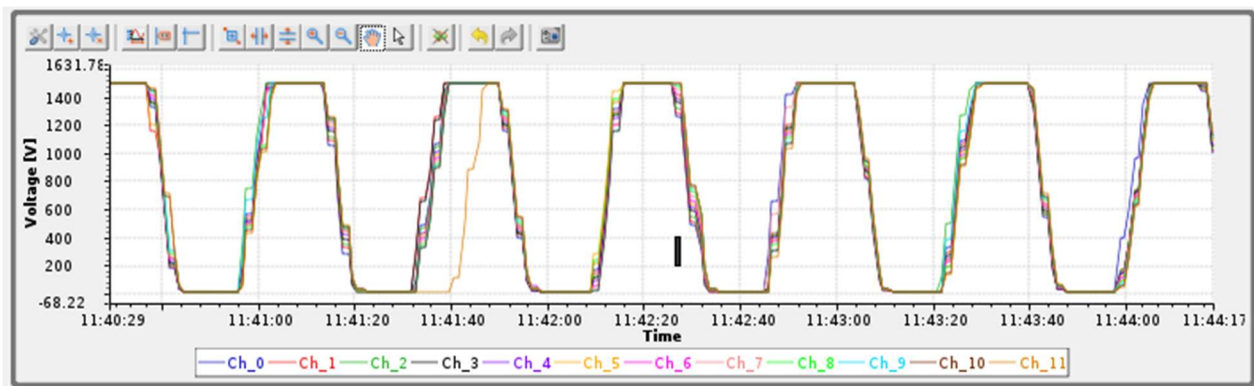
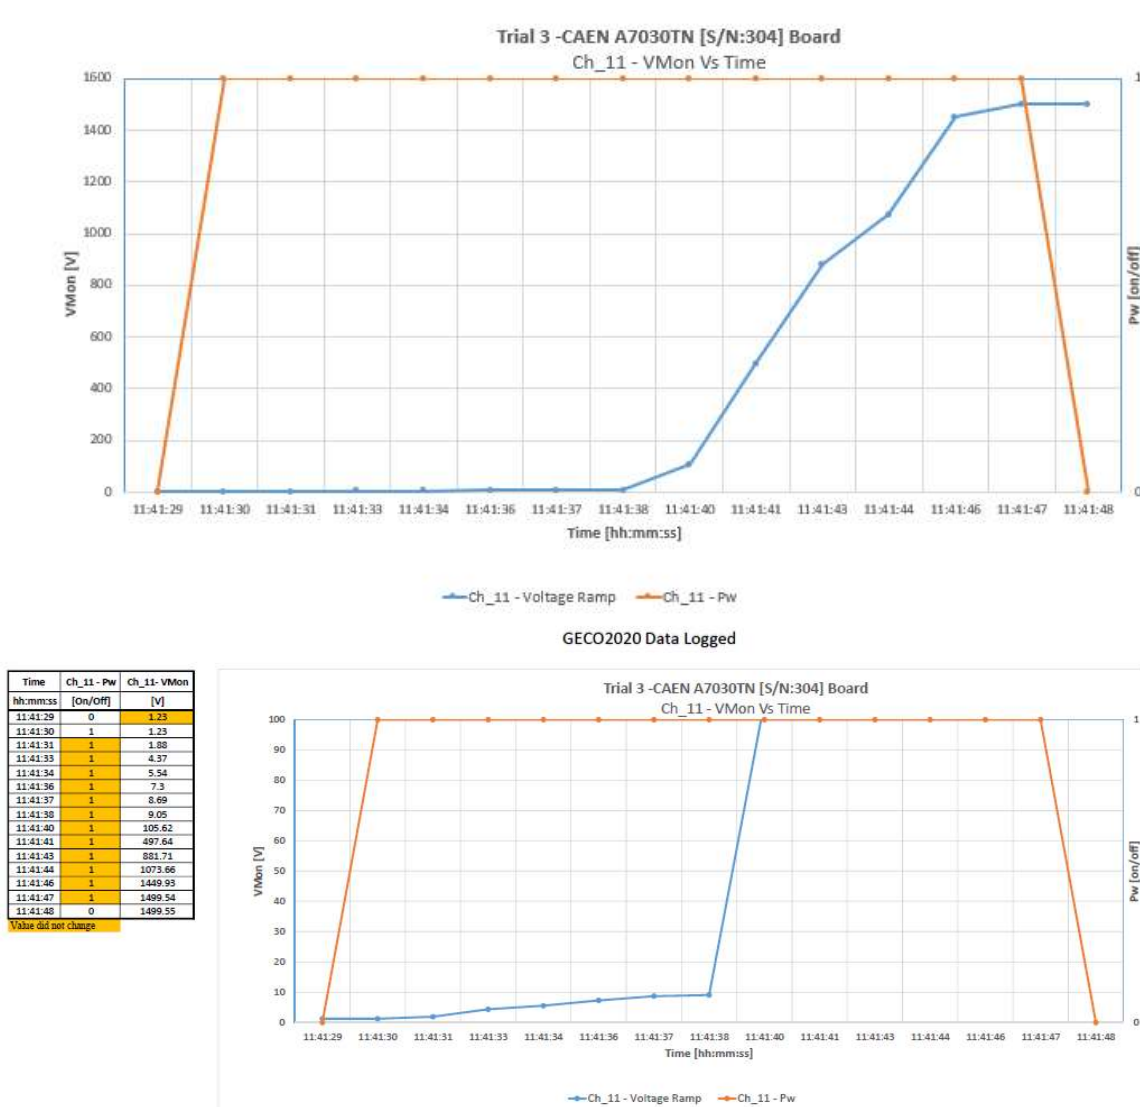

Fig.1. HV CAEN – Voltage Ramp Test CSS BOY screen shows channel 11 latency to ramp up
Fig.2. GECO 2020 plot from data logged shows the same latency to ramp up for channel 11 shown by HV CAEN – Voltage Ramp Test CSS BOY screen
1. Channel 11 ramped up to set voltage ~ 10 s later, *Pw* parameter was set to 1 (turn on channel) but channel did not ramp to the set voltage. After data logged analysis for a period between 11:41:29 and 11:41:48 (one ramp up/down cycle), found that *HV CAEN – Voltage Ramp Test CSS BOY screen* and GECO 2020 data log plotted matched. See fig.1 and fig.2.
- 1.1. Fig.1 shows how channel 11 was recovered by itself in the next cycle and ramped with no issues along with the other channels. This behavior seems to happen for all failed channels during test